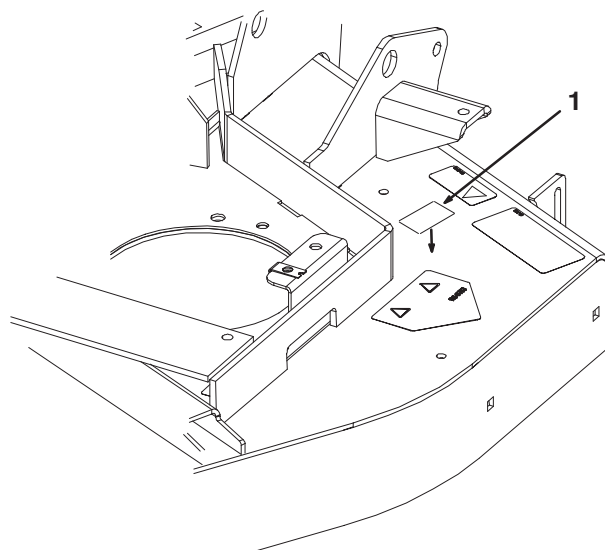

Figure 4
10. Affix an identification decal to the top of the mower deck near the serial plate (Fig. 4). Make sure the mounting surface is clean.
11. Affix an identification decal to the top of the mower deck near the serial plate (Fig. 4). Make sure the mounting surface is clean.